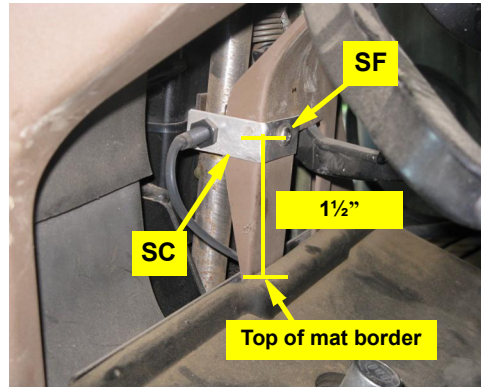

Figure 3: Installed sensor/bracket
- b. Using self-tapping screw **SF** provided, attach the aluminum bracket/sensor **SC** to the plastic cover at the point you measured (Figure 3).